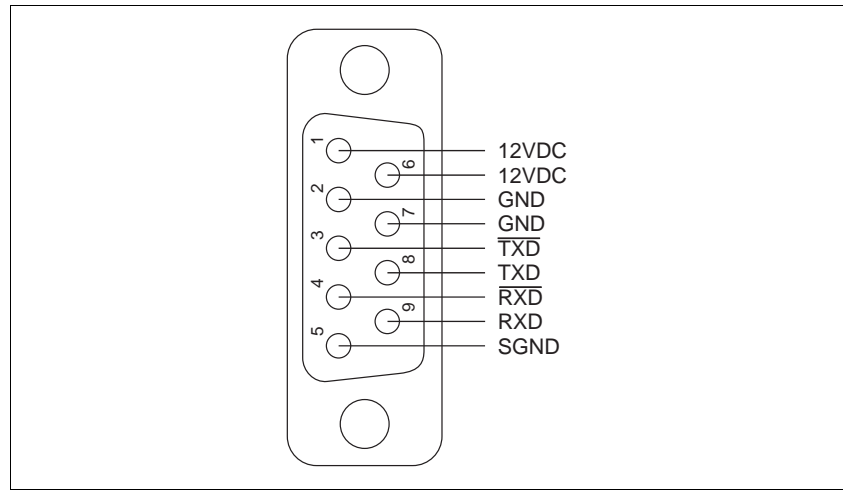

Fig. 2-18 Interface connector - device end
1. Solder the litz wires to the connector as illustrated in fig. 2-18.